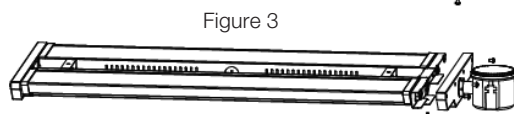

Figure 3
STEP 2: Remove the knockout of the side cover and assemble the sensor onto the side cover. Attach the side cover with the sensor back onto the fixture (Figure 3).